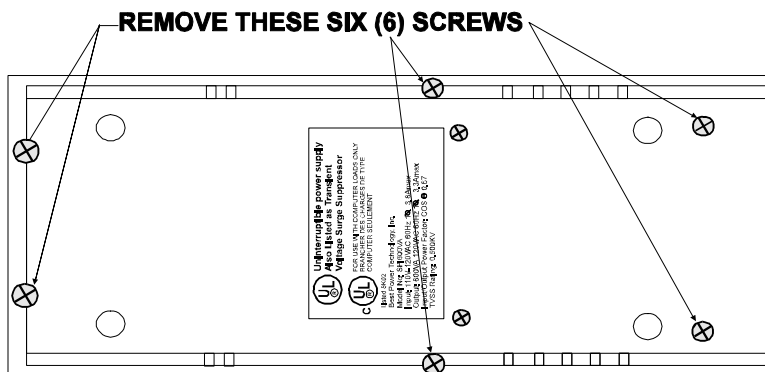

Figure 3
For SPI 450 and 600 models, Remove the six (6) screws that hold the cover on the base of the UPS cabinet. (See Figure 3.)